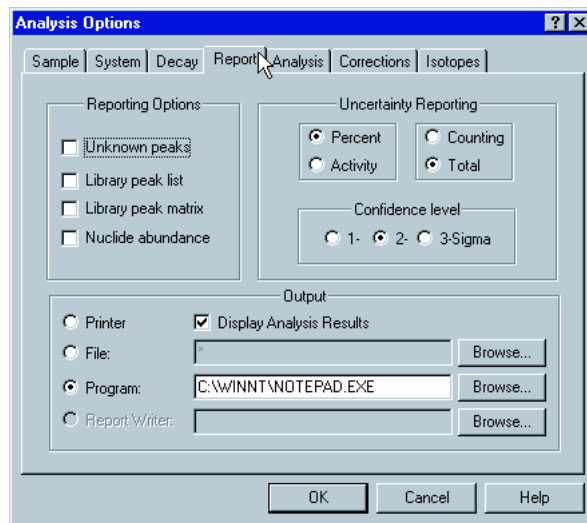
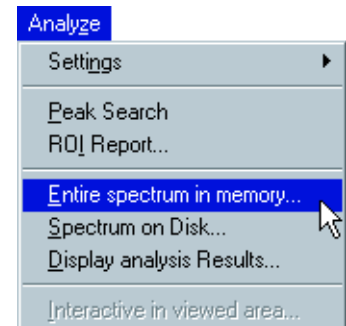

Fig. 39
Fig. 47
2.13 Click the **Report** tab (Fig. 39).
3.4 Upon completion of the count, choose **Analyze, Entire Spectrum in Memory** (Fig. 47). The Sample Definition File stored all analysis option parameters that were created in Step 2. A report will be generated on the screen — this action will invoke the Notepad software to create the report that was setup in Step 2.13 (Fig. 39).